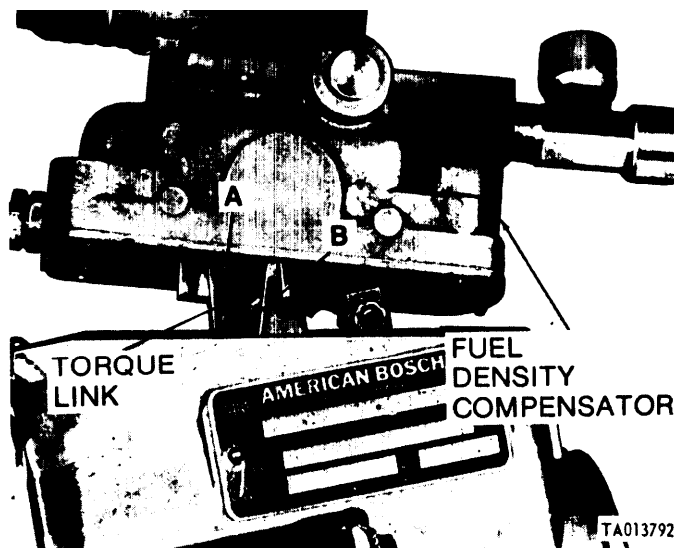

Figure 3-9. Removing fuel density compensator (code A pumps).
(3) *Code A injection pump compensators.* Refer to figure 3-9. Compensator 2910-125-3793 uses an additional fuel limiting stop. This stop (A) is attached to the torque link (b), and is furnished with new compensator.